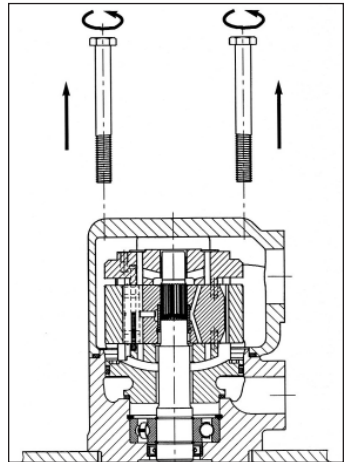

Fig. 30
2. Unscrew the 4-Bolts **(Fig. 30)**.